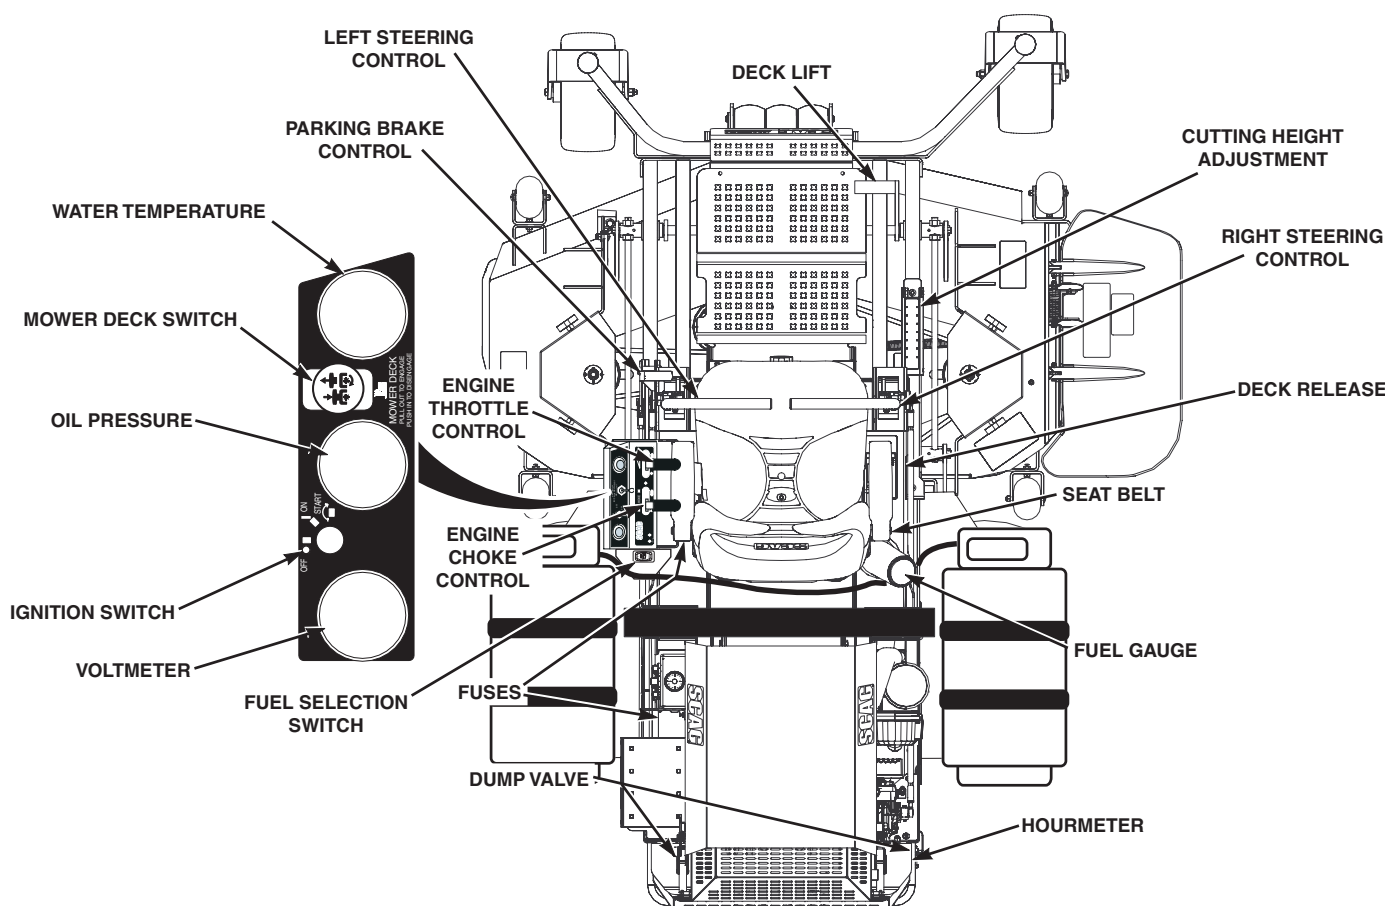

Figure 4-1. Controls and Instruments
1. **Ignition Switch (Figure 4-1).** The ignition switch is used to start the engine and has three positions; OFF, ON, and START.
2. **Mower Deck Switch (Figure 4-1).** Used to engage and disengage the mower drive system. Pulling up on the switch will engage the deck drive. Pushing down on the switch will disengage the deck drive.
3. **Engine Choke Control (Figure 4-1).** Used to start a cold engine.
4. **Engine Throttle Control (Figure 4-1).** Used to control the engine speed. Pushing the lever forward increases engine speed. Pulling the lever back decreases engine speed. Full back position is the IDLE position. Full forward is the cutting position.
5. **Voltmeter (Figure 4-1).** Indicates the condition of the charging system. When the engine is running, in normal operating conditions, the needle should be in the 12 to 14 volt range.
6. **Hourmeter (Figure 4-1).** Indicates the number of hours the engine has been operated. It operates whenever the key is on. Has preset maintenance reminders for engine and hydraulic system oil changes. Will start flashing scheduled maintenance 2 hours before preset time and continue flashing until 2 hours after. Automatically resets.
7. **Fuse Holders (Figure 4-1).** There is one 20 amp fuse and one 50 amp resettable fuse that protect the mower's electrical system. To replace fuses, pull fuse out of the socket and install a new fuse.
8. **Left Steering Control (Figure 4-1).** Used to control the mower's left wheel when traveling forward or reverse.
9. **Right Steering Control (Figure 4-1).** Used to control the mower's right wheel when traveling forward or reverse.
10. **Parking Brake Control (Figure 4-1).** Used to engage and disengage the parking brakes. Pull the lever back to engage the parking brakes. Push the lever forward to disengage the parking brakes.
11. **Fuel Tank Gauge (Figure 4-1).** Indicates the amount of fuel in the fuel tank.
14. **Cutting Height Adjustment (Figure 4-1).** Used to set the cutter deck at the desired cutting height.
15. **Deck Release Lever (Figure 4-1).** Used to lock the cutter deck in the transport position. Push the foot pedal forward and pull back on the release lever to release the cutter deck for normal mowing.
16. **Temperature Gauge (Figure 4-1).** Indicates the operating temperature of the engine. Used on mowers with the liquid-cooled engine only.
17. **Seat Belt (Figure 4-1).** Used to secure the operator. Seat belt must be worn at all times when the ROPS is in the upright and locked position.
18. **Seat Hold Down Release Latch (Figure 4-1).** Located behind the seat. Used to secure the seat in the operator's position. Release the latch to gain access under the seat.
19. **Fuel Selection Switch (Figure 4-1).** Used to select the type of fuel the engine will operate on. Selection can be made for either Gasoline or LP.
13. **Deck Lift Foot Lever (Figure 4-1).** Used to raise and lower the cutter deck. Push full forward to lock in the transport position.